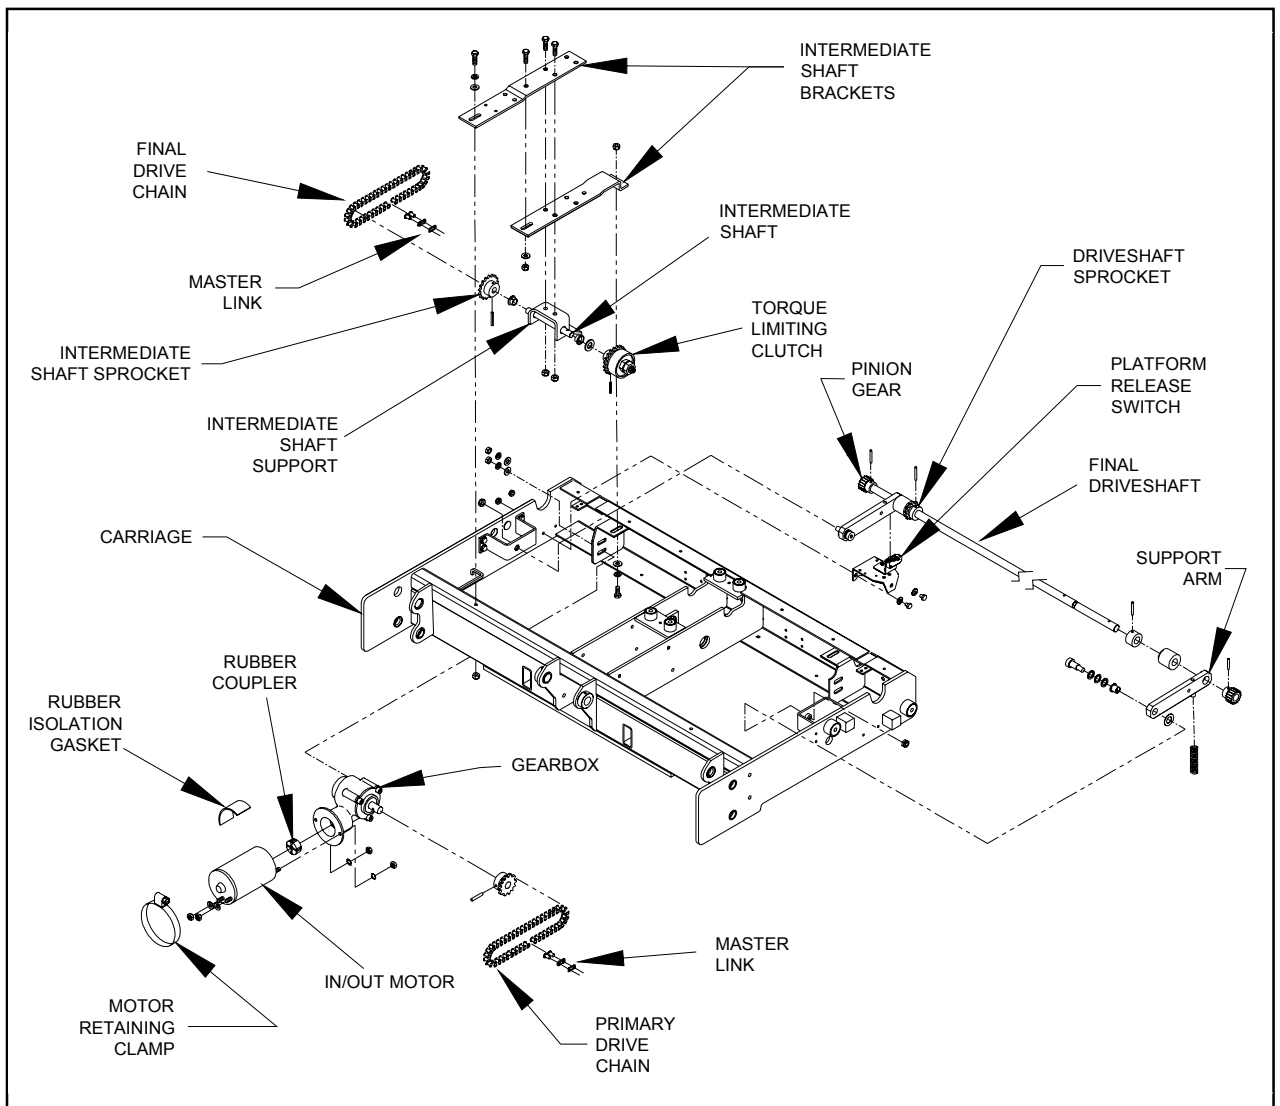

FIGURE 4-17: DEPLOYMENT SYSTEM COMPONENTS
Refer to **Figure 4-17**. The deployment system propels the traveling frame (carriage, lifting frame, and platform) out of enclosure, or pulls it back in. This section describes major deployment system components, including how they operate, how to remove and replace them, and how to perform adjustments.
- 6) Refer to **Figure 4-17**. Loosen two nuts fastening the gearbox to carriage.
- 4) Refer to **Figure 4-17**. Position master link at bottom-center of its travel by moving carriage assembly forward or backward (use the DEPLOY and STOW functions).
- 1) Refer to **Figure 4-17**. Verify the two screws fastening the intermediate shaft mounting bracket to carriage are loose.
- 1) Refer to **Figure 4-17**. Loosen motor retaining clamp that fastens the gearmotor to gearmotor support.
- 3) Refer to **Figure 4-17**. Loosen the two nuts fastening gearmotor assembly to carriage.